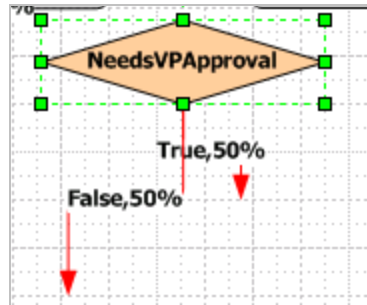

Figure 3-25. Visio Updates
1. In Visio Flow Editor, click the Apply button in the Decision Properties panel to apply the properties to the Decision shape. Process Commander automatically presents the True and False return values as connectors from the decision shape (Figure 3-25).